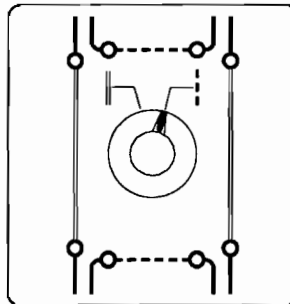

Figure 8-9. Switching the System Loop out of the Network
5. Switch the system loop out of the network as shown in Figure 8-9.